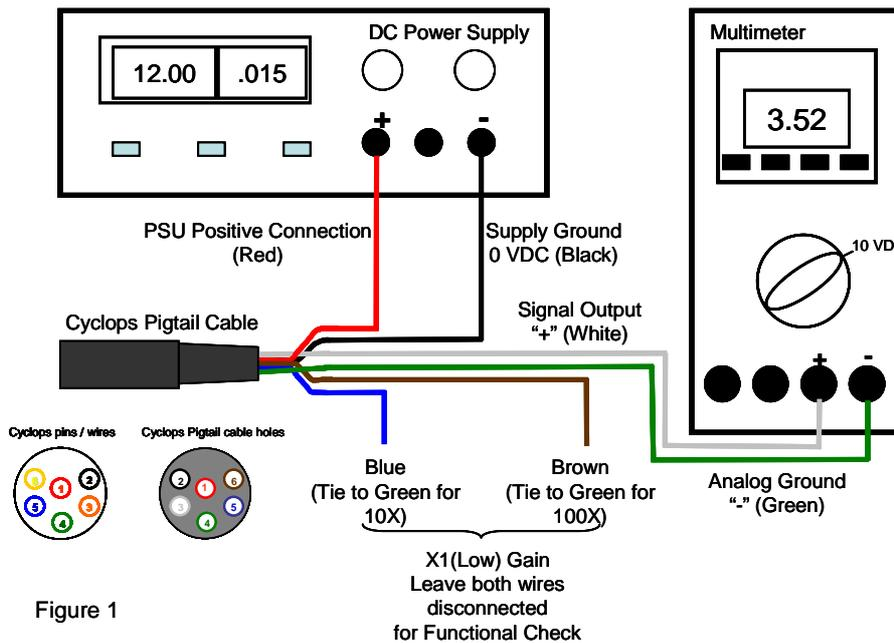

Figure 1
Attach the 6-pin female connector to the sensor and connect the wire leads as shown in Figure 1. Do not connect or ground the Brown and Blue wires at this time. Leaving them disconnected will set the sensor to the X1 gain range.
With the Cyclops connected as shown in Figure 1, make the following functional checks:
1. For *in vivo* chlorophyll applications, take a natural sample of water from a sampling station where you plan to deploy the Cyclops. Applying good measurement practices, store it properly and quickly transport it to a laboratory where you have the Cyclops connected to a multimeter and DC power source (see Figure 1).